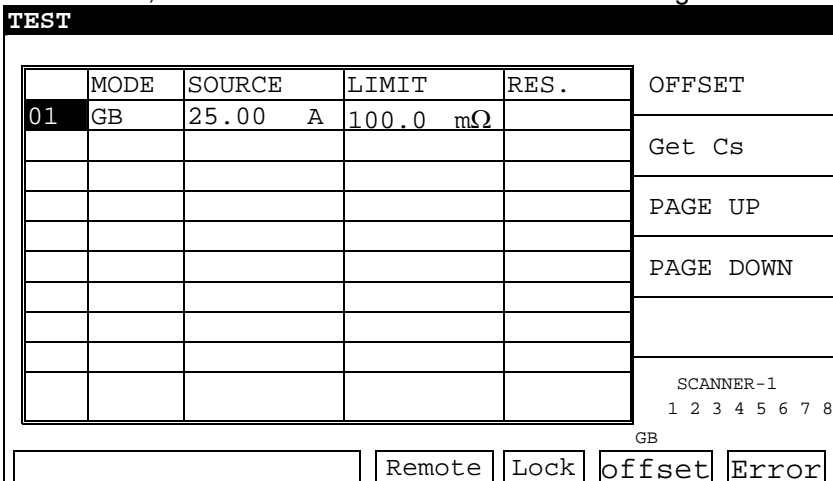

Figure 4-6
2. According to paragraph 4.8.2 for setting various parameters of GB MODE. Take for example: CURRENT set as 25.00A, HIGH LIMIT: 100mΩ, TEST TIME: 3.0sec. TEST screen is as Figure 4-6 shown.